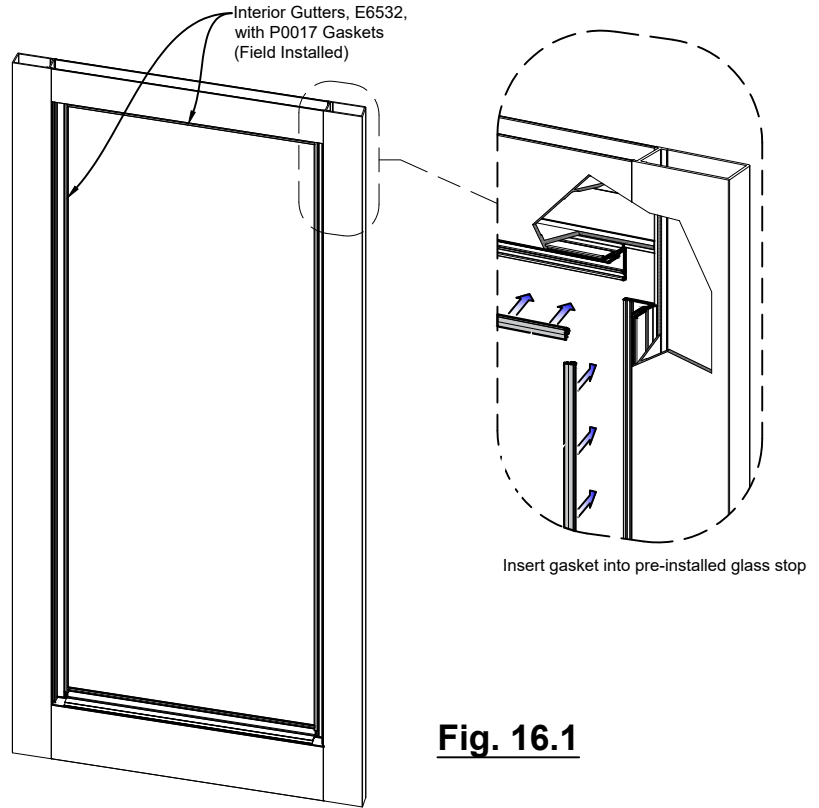

Fig. 16.1
- B. Install interior gasket (P0017) into the receiver on glazing gutter for dry glazed applications. **SEE Fig. 16.1**. Install glazing tape P6552 for wet glazed applications.